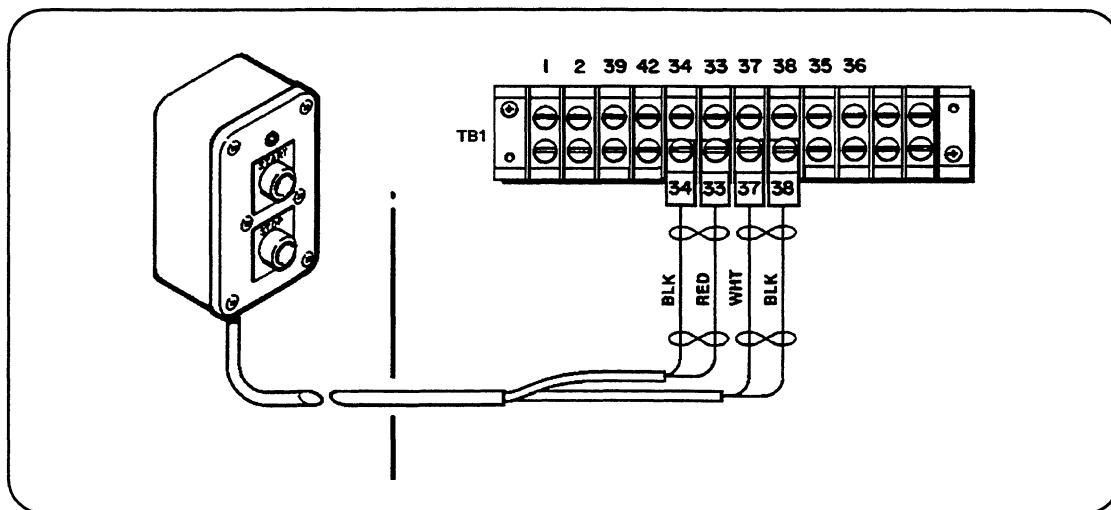

Figure 3-3 Remote Start/Stop Switch Connections
2. Connect wires 33 and 34 to TB1-5 and TB1-6 for machine "start." (See Fig. 6-3 for location of TB1, and Fig. 3-3 for detail of TB1.)